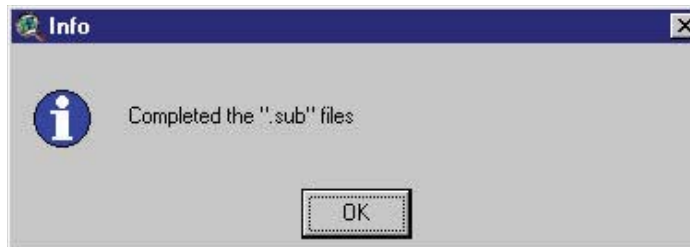

Figure 8.17
- d. From the **Input** menu, select **Write General Subbasin Data (.sub)** (or press `Ctrl+F`). This selection generates the general subbasin data (see *Soil and Water Assessment Tool User's Manual, Version 2000*, Chapter 6). A prompt box pops up (as described in 1.c under Section 8.1). When the data files have been written, a message box will pop up (Figure 8.17).